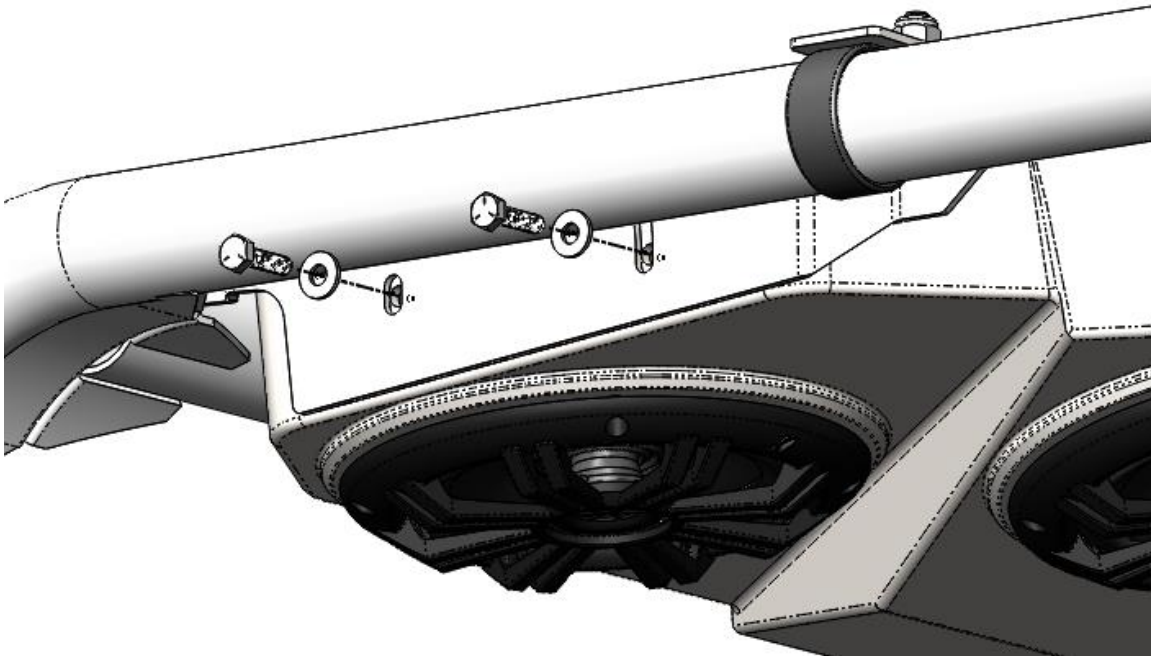
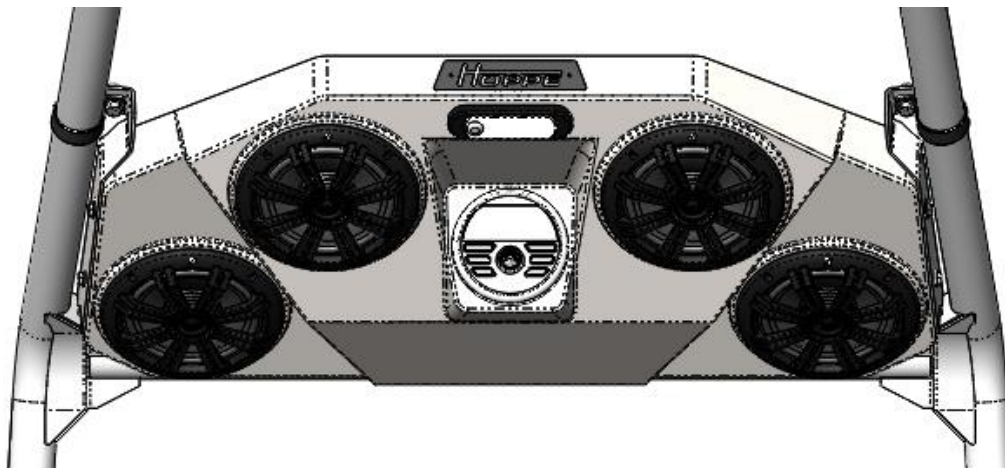

Figure 15: Install the ¼"-20 bolts and washers to mount the Audio Mini to the brackets.
Figure 16: Loosely install the sound system on the mounting brackets.
13. Using an assistant, connect the two mating connectors and hang the *Audio Mini* off-road sound system on the brackets using the supplied ¼"-20 bolts and washers (loosely tightened). **Note: The sound system weighs up to 25 lbs. Since you will have to lift and bolt each end, it is helpful to have an assistant for this step. Note: The harness connector will not fit between the frame and the Audio Mini once installed, so it is important to follow this step closely to not repeat work.** See Figure 15 and Figure 16.